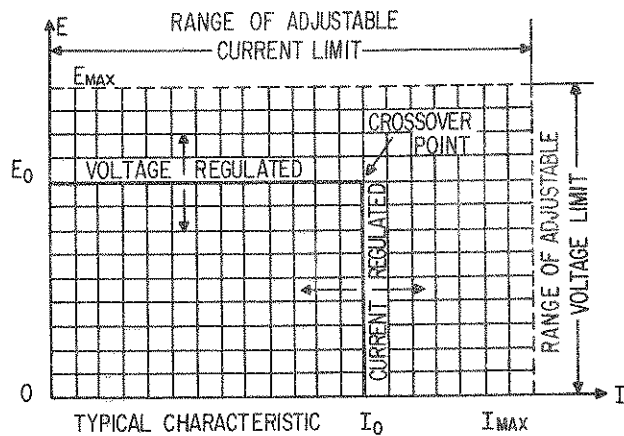

FIG. 3-5 AUTOMATIC VOLTAGE/CURRENT CROSSOVER.
- 3-16 AUTOMATIC CROSSOVER. The operating mode of the BHK power supply will be determined by the setting of the front panel voltage and current controls and the load resistance. For any given setting of the output controls, a sharp crossover point exists where the load resistance (R_L) is equal to the output voltage (E_O) set by the front panel control, divided by the output current (I_O). Front panel signal lights (VIX® indicator) indicate whether the power supply is operating in the voltage or current mode of operation. (Refer to FIG. 3-5.)